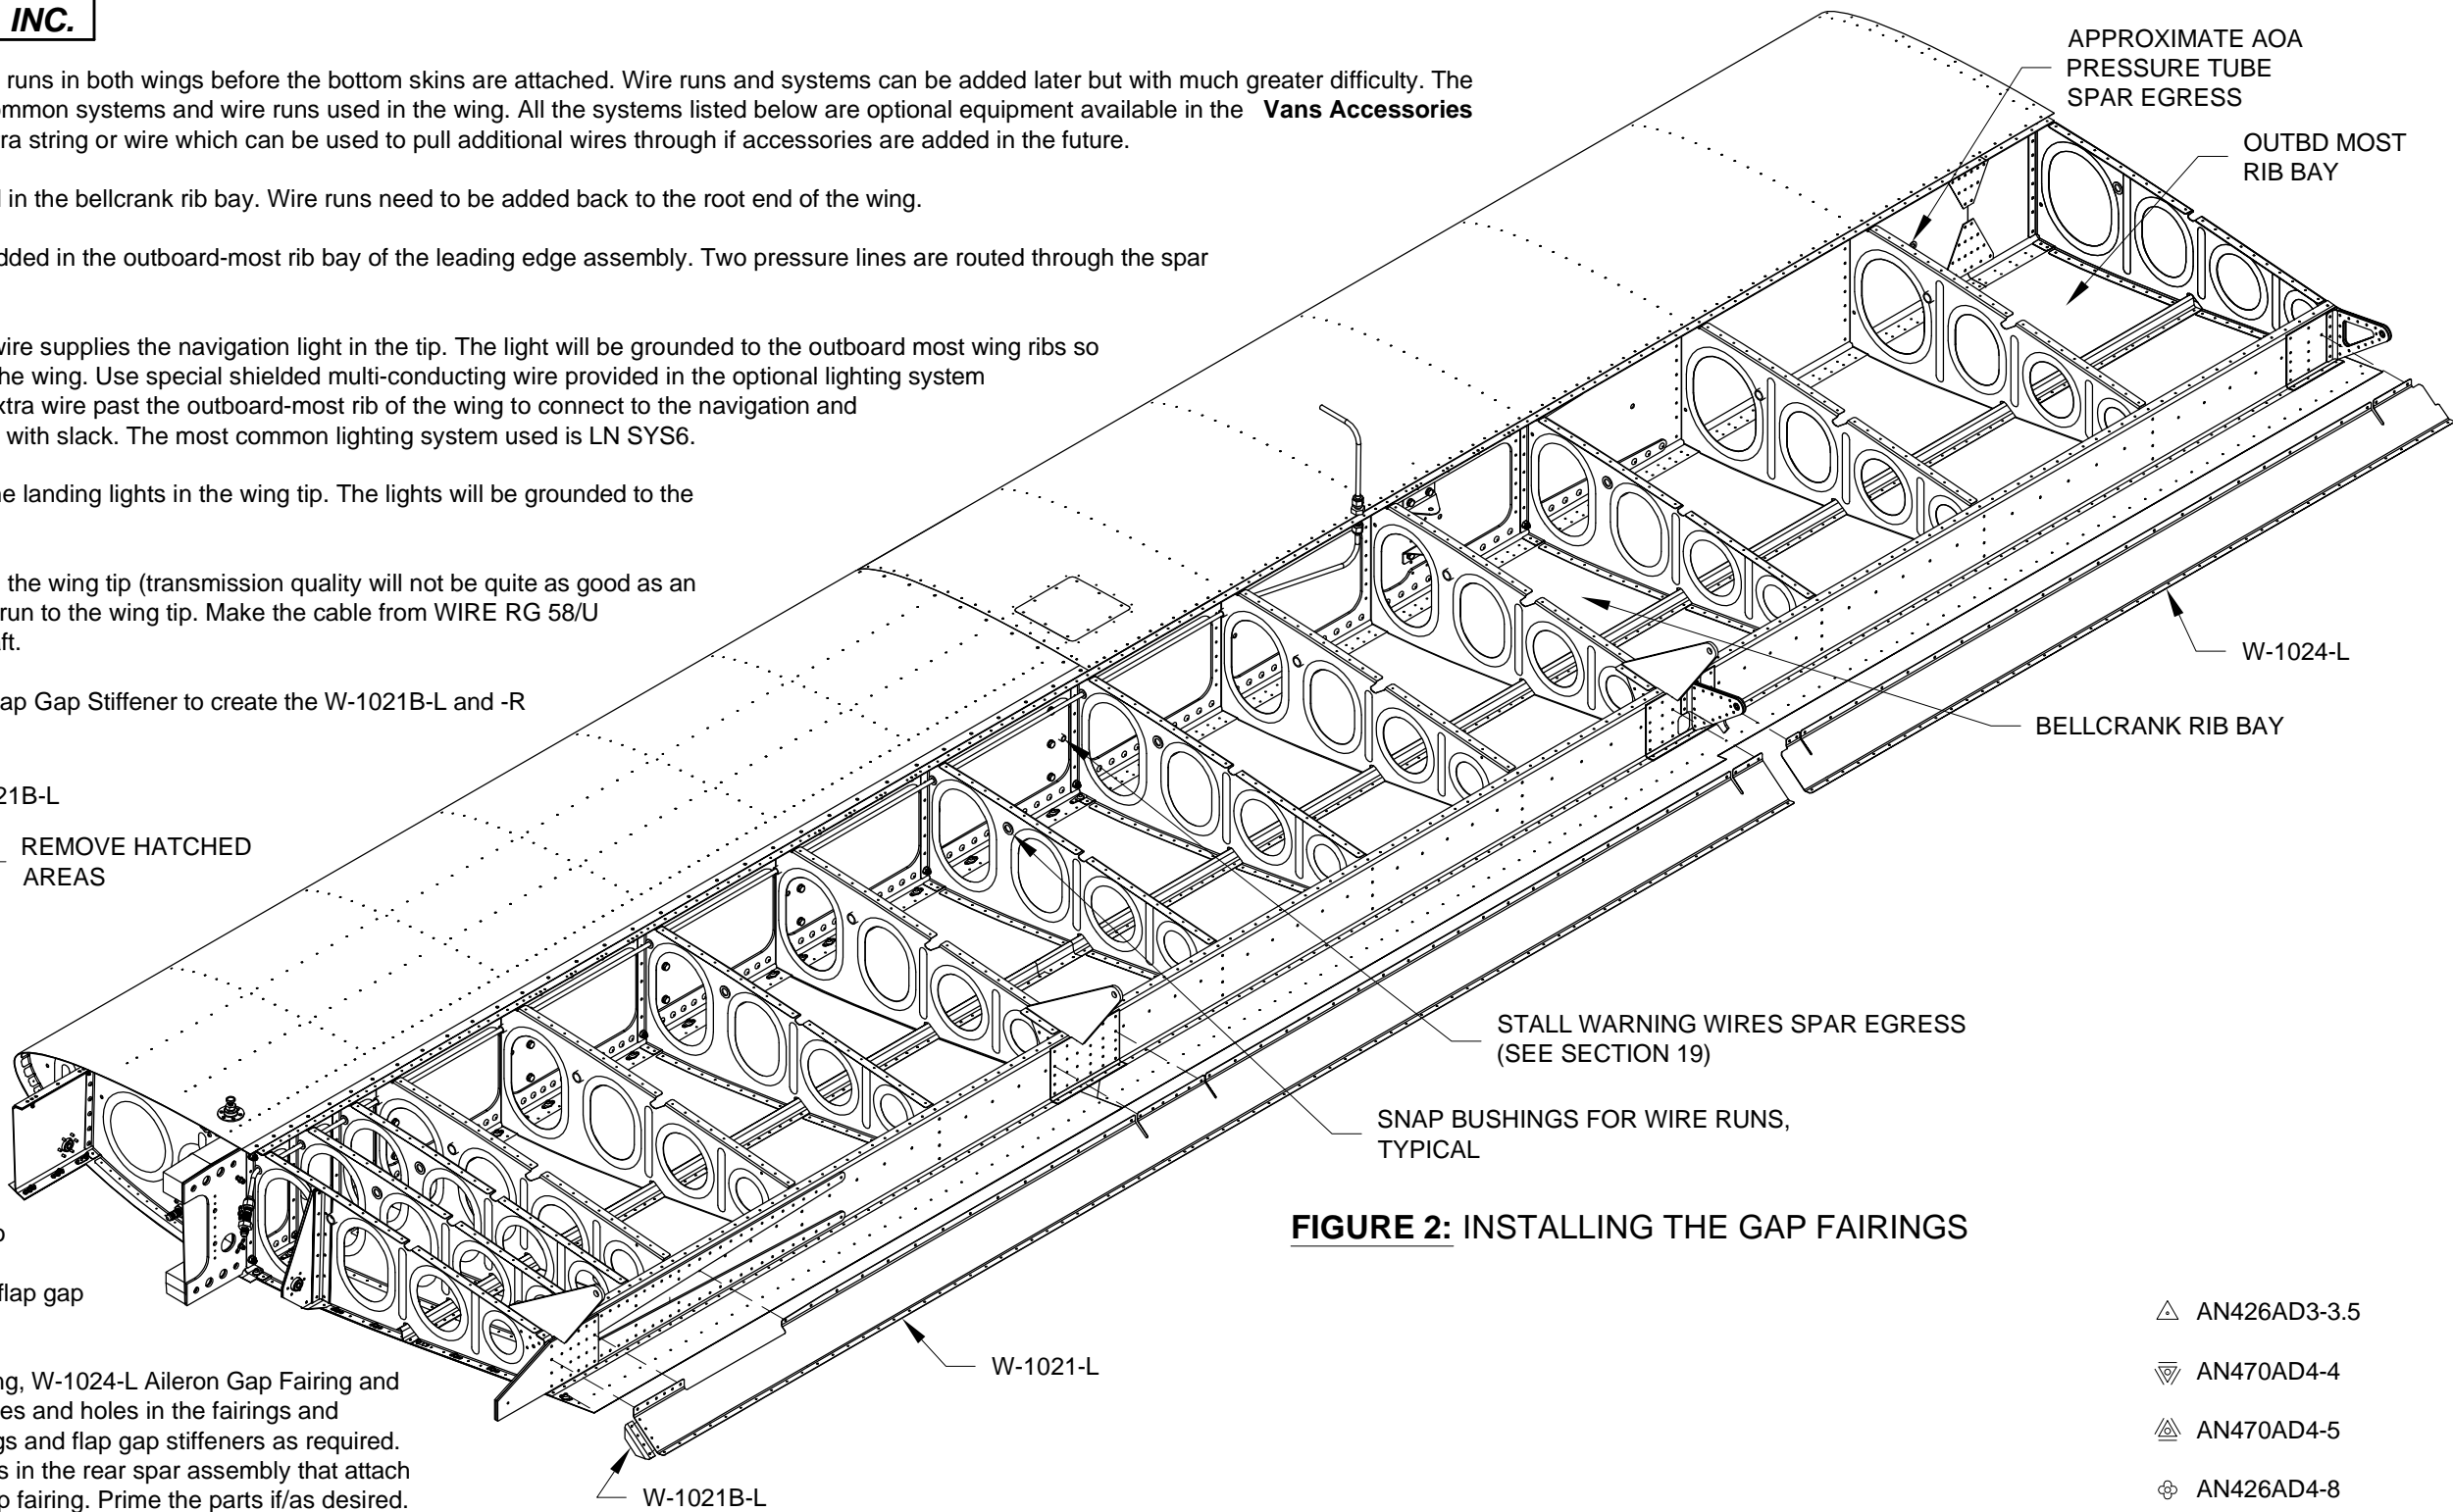

FIGURE 2: INSTALLING THE GAP FAIRINGS
Step 5: Cleco then rivet the W-1021B-L Flap Gap Stiffener to the W-1021-L Flap Gap Fairing as shown in Figure 2 and per the callouts in Figure 4.